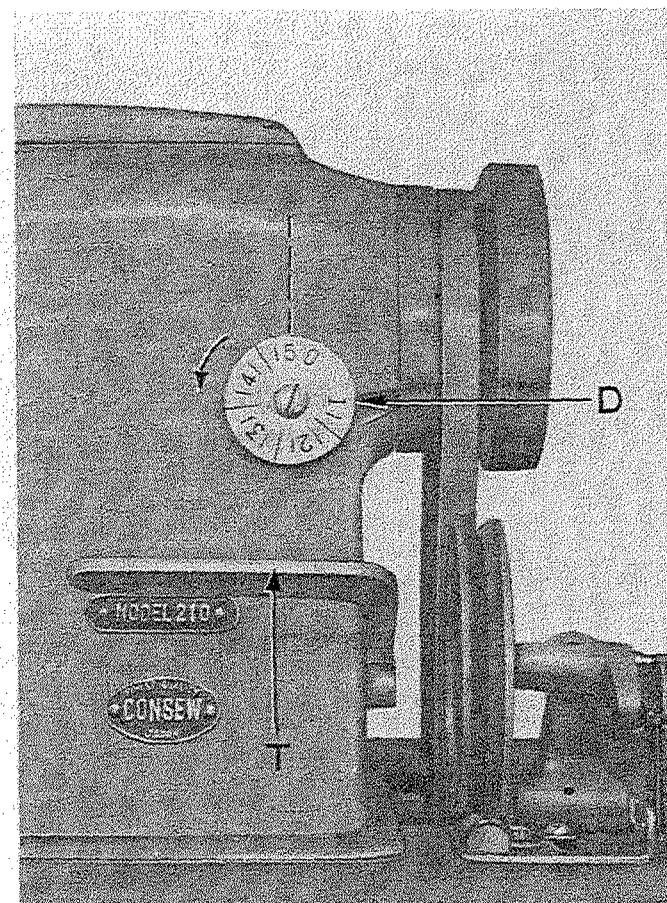

Fig. 11
The stitch length is regulated by turning dial (D) at the front of the machine (Fig. 11). When number "0" on dial appears uppermost, the machine does not feed. Turning dial counterclockwise will gradually increase the stitch length until the maximum is reached when number 5 is on top. As the stitch length is increased, it can be noticed that tacking lever (T) slowly moves in upward direction.